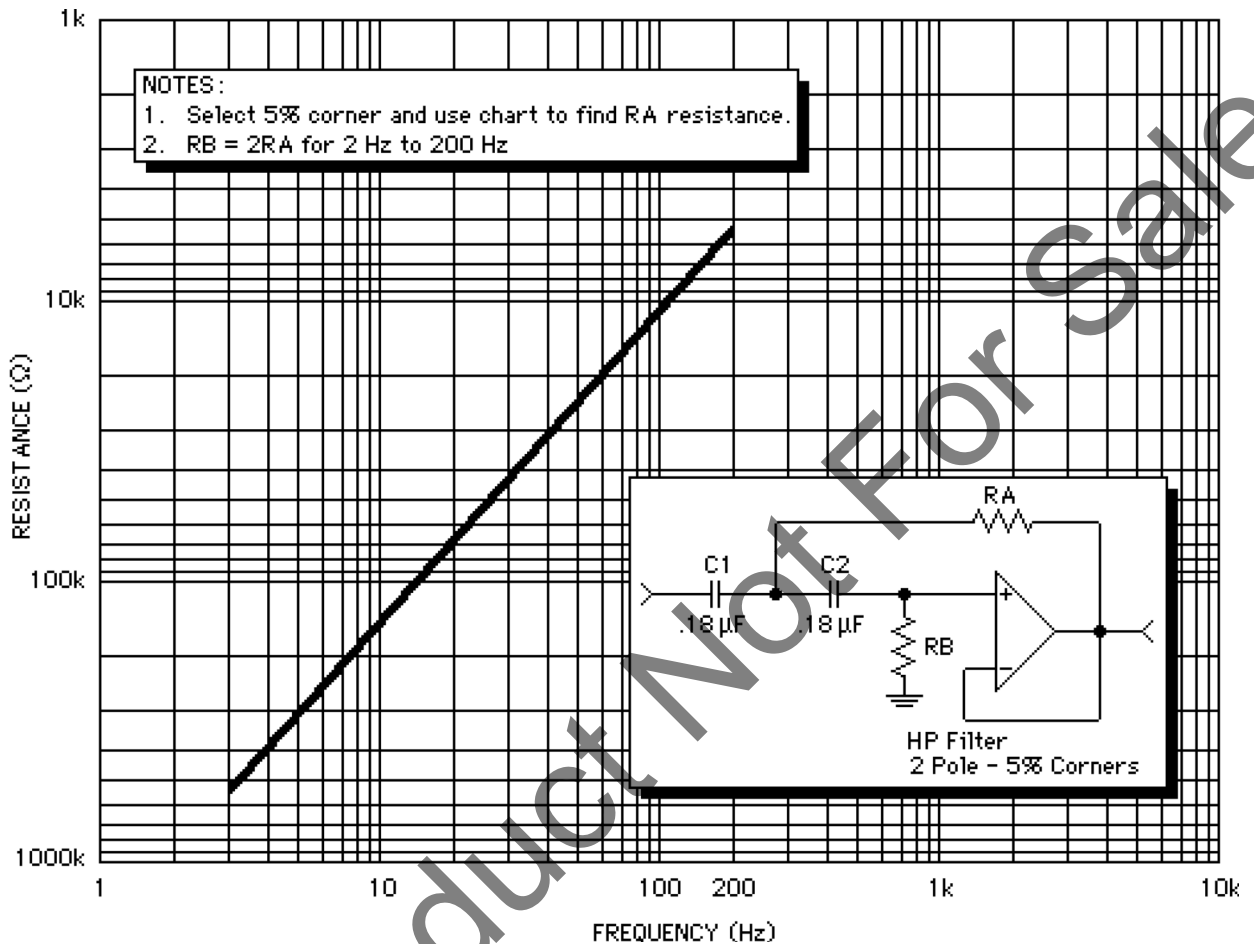

FIGURE 6-3: HIGH PASS FILTER RESISTOR SELECTION CHART
1. Select a desired cut-off frequency and, using Figure 6-3, first determine the resistance value of resistors RA.